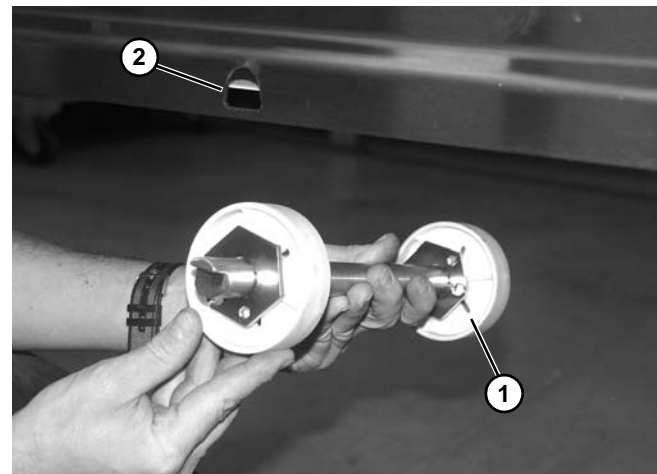

Figure 113
1. Remove belt return assembly (Figure 113, item 1) from slotted holes (Figure 113, item 2) on each side of conveyor frame.